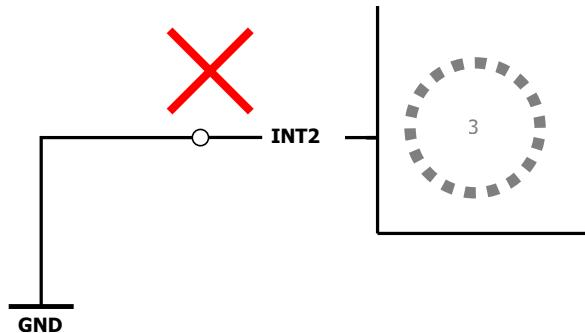

Figure 54: Connection that is not allowed in I²C and I3C before the pin 3 is configured to the output characteristics
- When the output characteristics of pin 3 is disabled (or not yet enabled), please do not connect pin 3 to ground, as shown in figure 54.